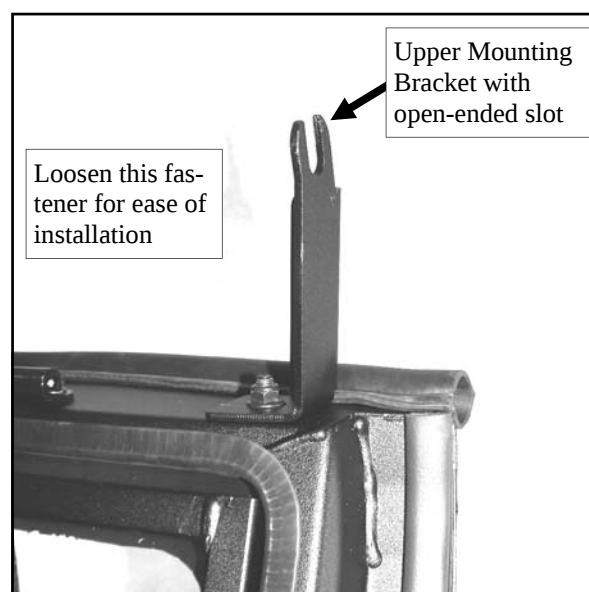

Fig. 8.1 (View of top right corner of windshield assembly)
8.1 See fig. 8.1. Loosen two factory installed bolts holding the Upper Mounting Brackets in place (one per bracket).